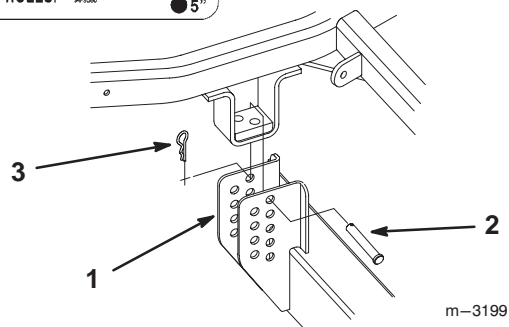

Figure 11
9. Select hole in mower hanger bracket corresponding to the height-of-cut desired. Lift on side and front handles to align holes and insert clevis pin (Fig. 11).
10. Secure clevis pin with hairpin cotter (Fig. 11).